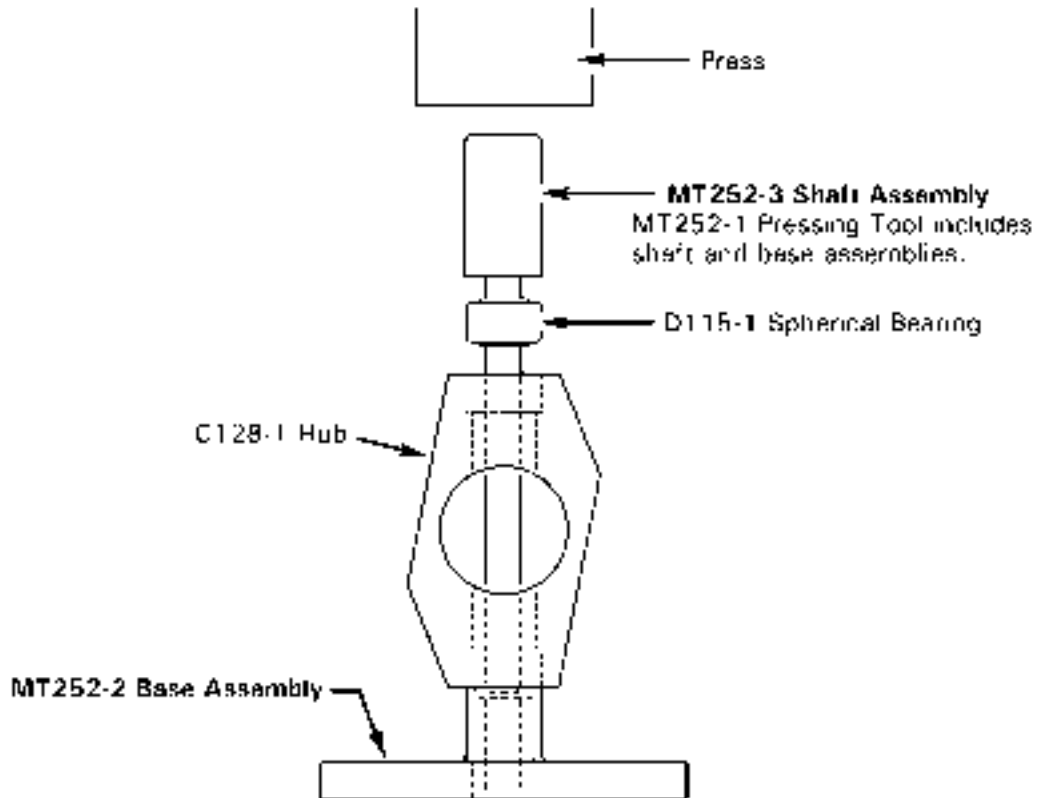

FIGURE 9-20 SPHERICAL BEARING INSTALLATION
2. Refer to Figure 9-20. Using Q-tip, apply light coat of approved primer (see Section 1.400) to bottom of hub bearing bore. Apply a thin line of primer to center of bearing outside diameter. While primer is wet, press bearing flush with top of hub using MT252-1 bearing installation tools. Wipe away excess primer.